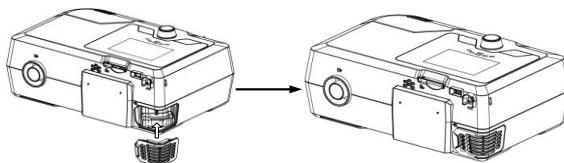

Fig. 12-2
(2) Install the filter cap containing the air filter to the device, as shown in Fig. 12-2.